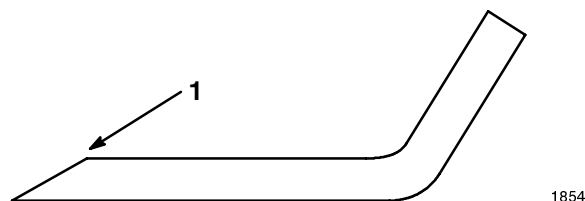

Figure 34
1. Use a file to sharpen the cutting edge at both ends of the blade (Fig. 34). Maintain the original angle. The blade retains its balance if the same amount of material is removed from both cutting edges.